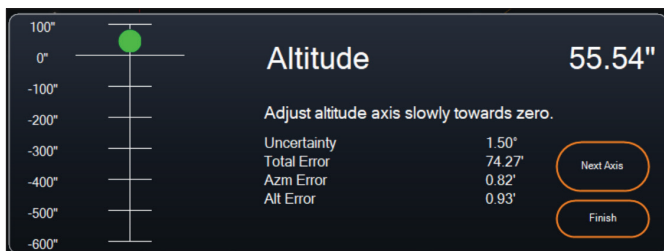

Fig. 19: Altitude Axis Adjustment window during polar alignment in CPWI.
5. Click "Next Axis" when you are done making adjustments to the azimuth. The Altitude axis adjustment window will appear (Fig. 19).